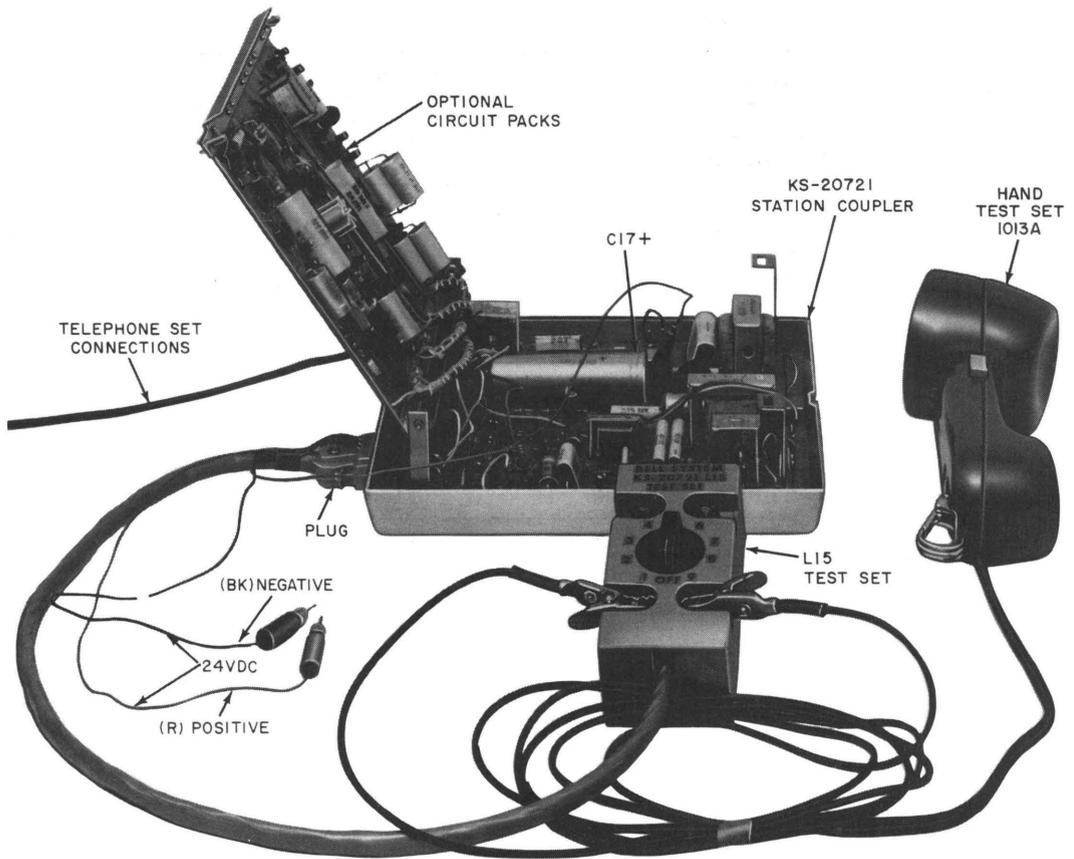

Fig. 5—KS-20721, List 3 Station Coupler With KS-20721, List 15 Test Set and 1013A Hand Test Set
- Set, Test, KS-20721, L15 (Fig. 5)—see 2.06.
2.06 The KS-20721, List 15 test set plugs into the connector on the station coupler and is used with a 1013A hand test set (or equivalent) to test the operation of the coupler independent of the CPE (Fig. 5).
4.06 The List 15 test set (Fig. 5 and 7), used with the 1013A hand test set (or equivalent) and a connecting cable terminated in a plug for connection to the station coupler, permits checkout of the coupler independent of the CPE.